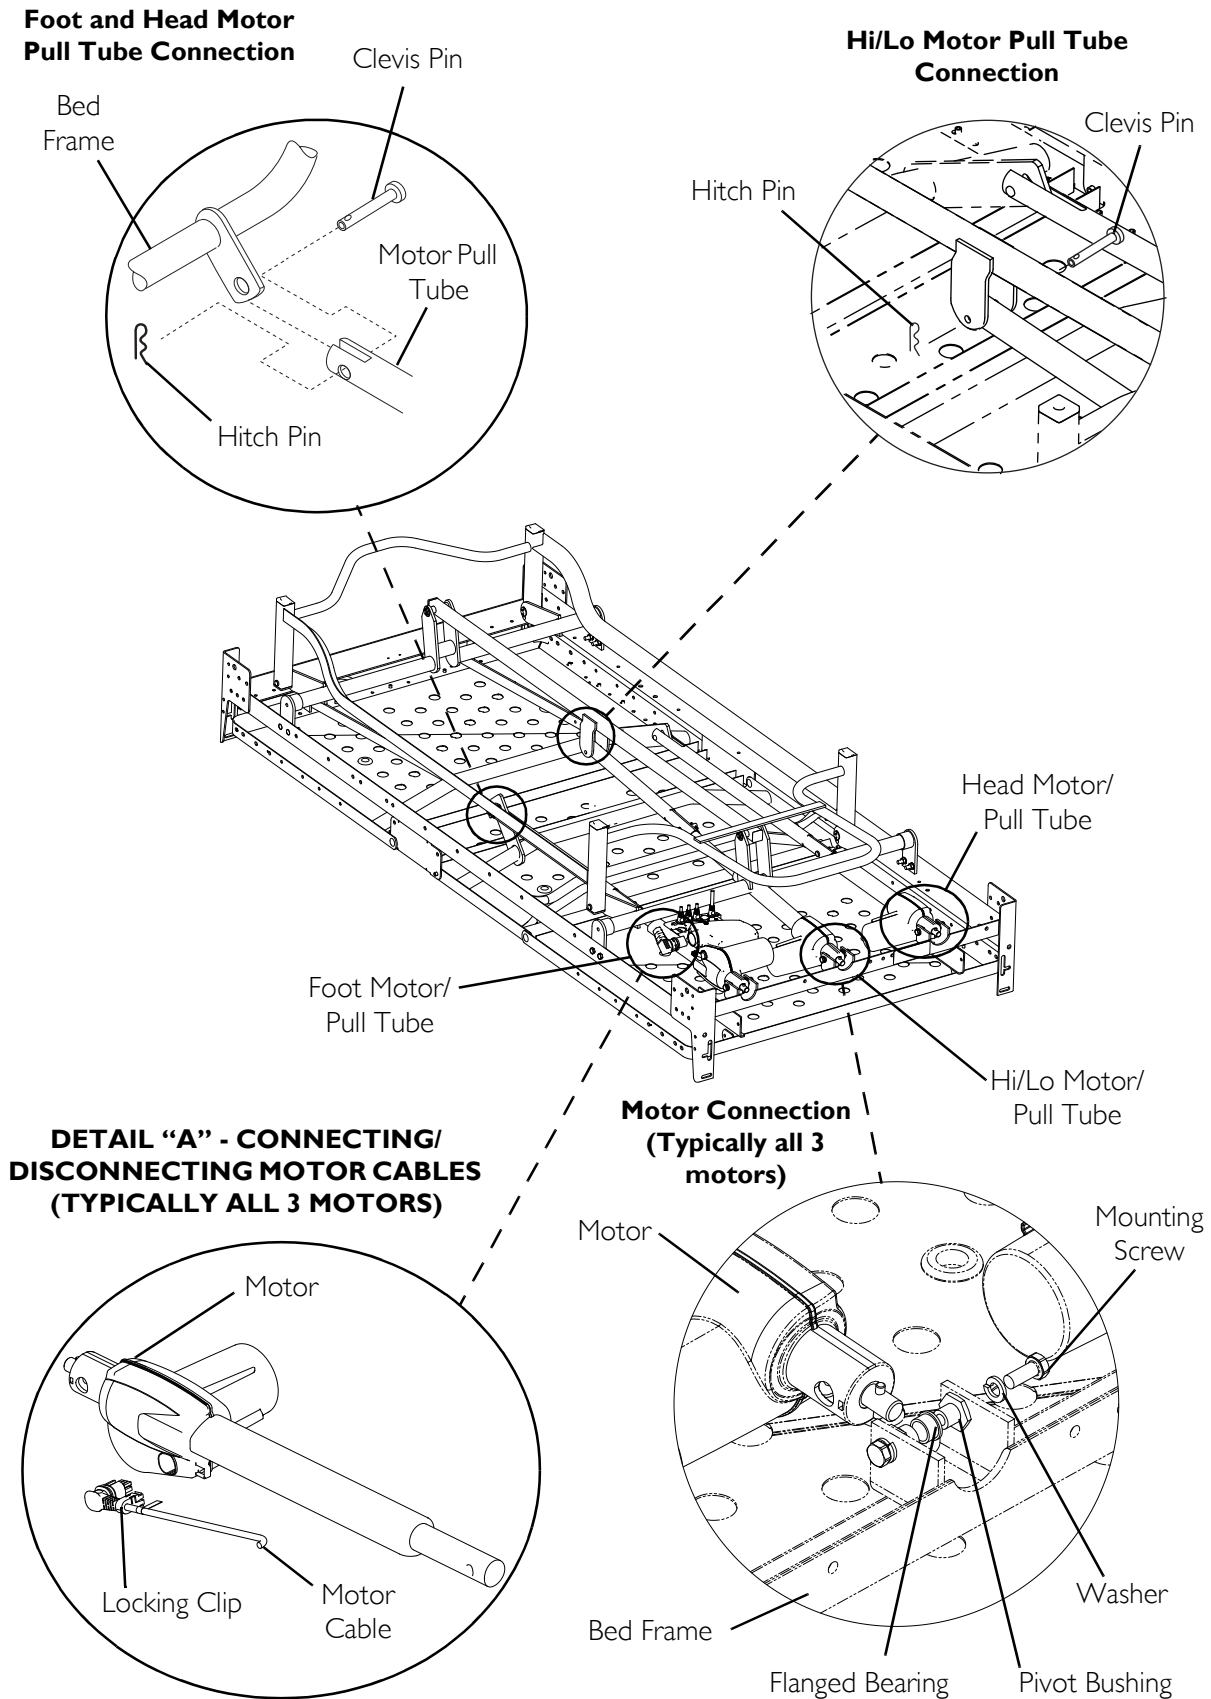

FIGURE 6.2 Replacing Head, Foot, or Hi/Lo Motor
NOTE: For this procedure, refer to FIGURE 6.1 on page 27 and FIGURE 6.2 on page 31.
- B. Grasp the motor cable connector (BLUE) and pull, disconnecting the motor cable from motor (Detail “A” in FIGURE 6.2).
- B. Grasp the motor cable connector (YELLOW) and pull, disconnecting the motor cable from motor (Detail "A" in FIGURE 6.2).
- B. Grasp the motor cable connector (RED) and pull, disconnecting the motor cable from the motor (Detail "A" in FIGURE 6.2).